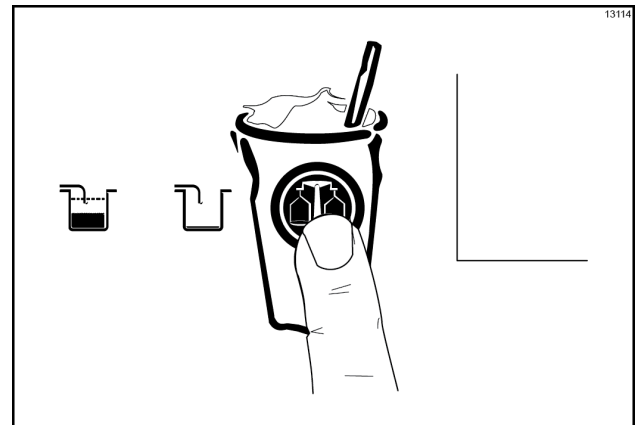

Figure-42
1. Press the Calibrate symbol 🍹 to display the menu options. The Calibrate symbol 🍹, the Auto symbol ❄️ on the Shake side, and the optional Flavor symbol 🌀 will be illuminated. (See Figure-42.)